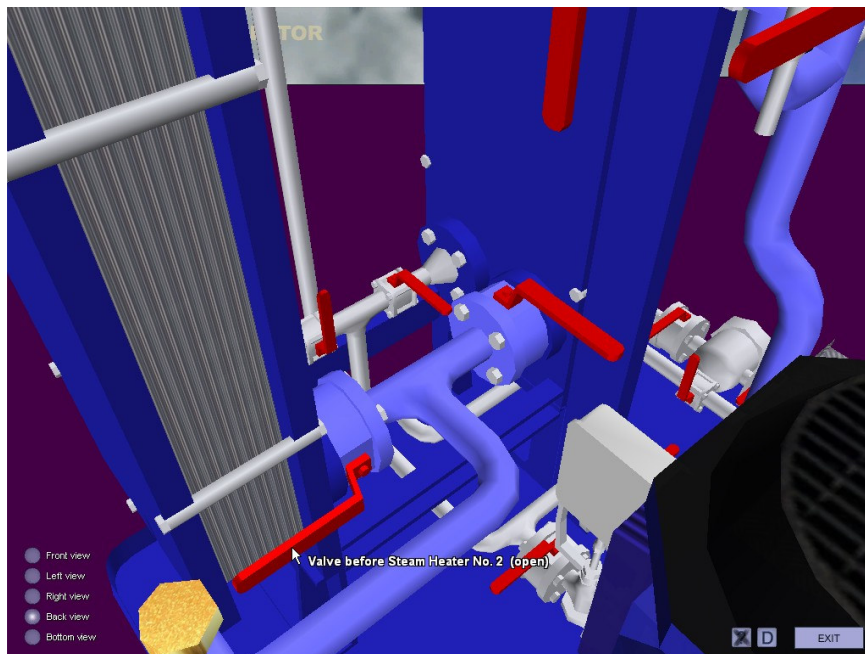

Fig. 19. Back view - Valves - Heat Exchanger oil inlet
6. Open valve before one of the Steam heater (e.g. before Steam heater No. 2) (fig. 19).